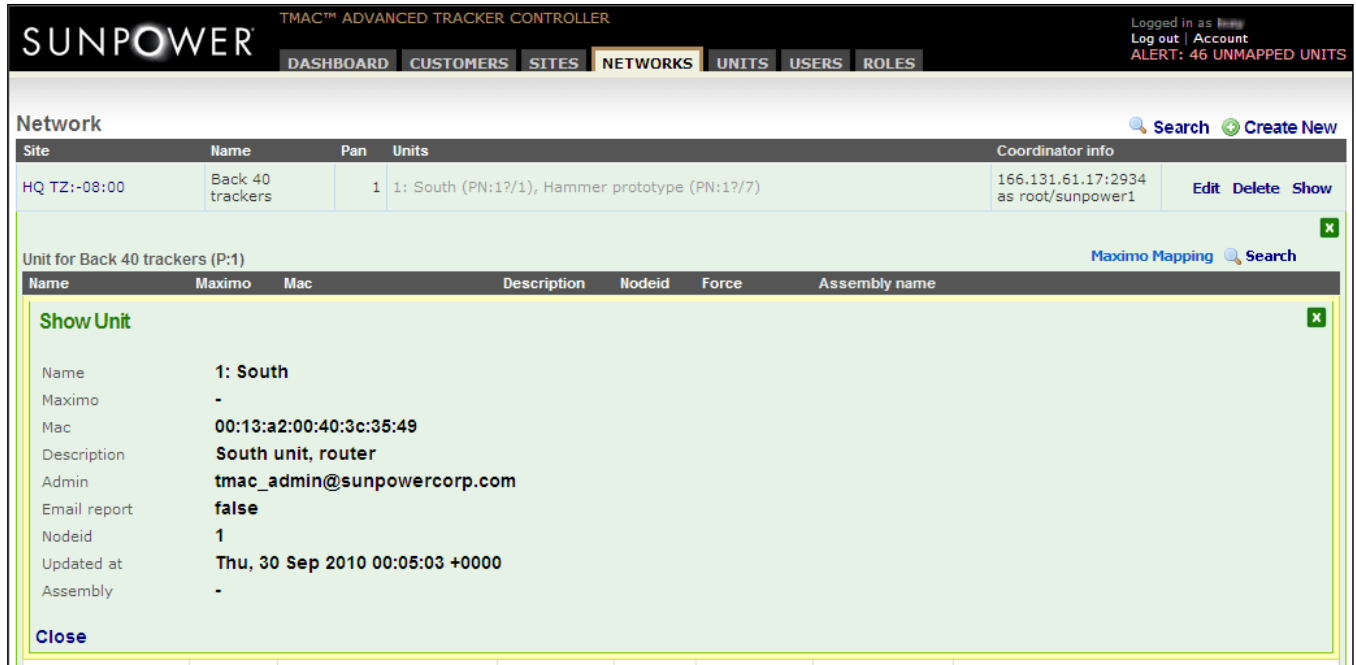

Fig. B32
4. Click **Show** within the row for the DTMAC unit you want to view. The **Show Unit** window appears (Fig. B32).